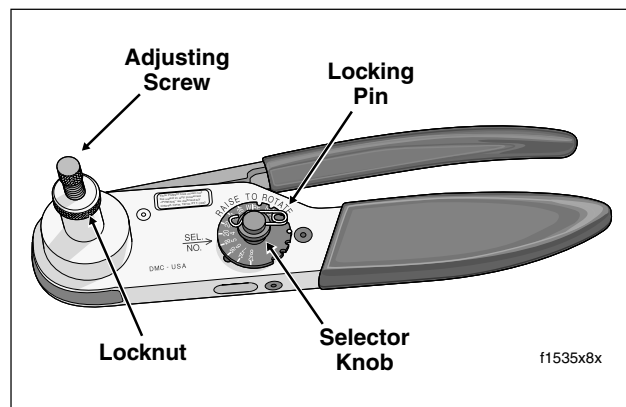

Figure B-8. Deutsch Solid Barrel Contact Crimp Tool (Part No. HD-42879)
3. Remove locking pin from selector knob. See Figure B-8.